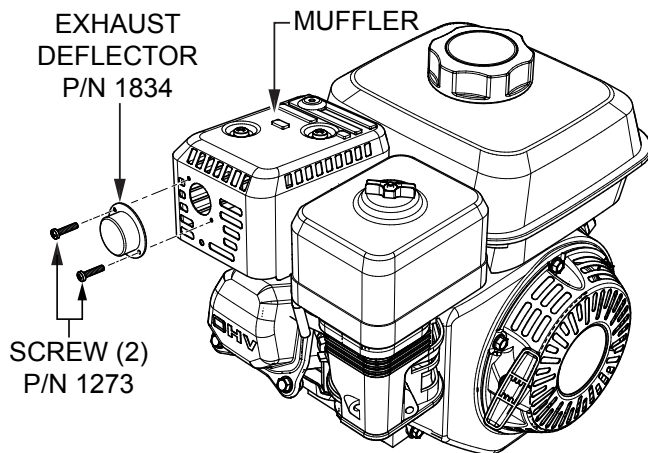

Figure 11. Exhaust Deflector Installation
1. Attach the exhaust deflector (P/N 1834) to the engine muffler with two screws (P/N 1273), and tighten securely. See Figure 11.